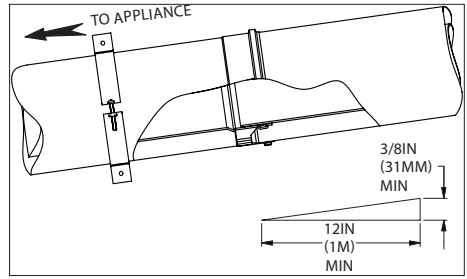

Figure 20
3. All vent pipes must have a minimum slope of at least 1.8° (3/8in rise per ft run, 31mm rise per meter run) back to the appliance. Ensure there are no dips in the system where condensate can collect. (**Fig.20**)
4. The venting system shall be securely supported using suitable hangers. DuraVent hardware is recommended however field supplied support hardware, such as all-thread or plumbers tape, approved by the AHJ is acceptable. Hardware must be fixed to a rigid surface such as a wall, stud, or framing, and must not deform or damage the vent (**Fig. 20 and 21**). Make sure the load of the vent system is not supported by the appliance.